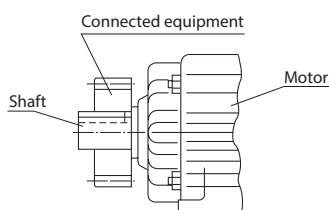
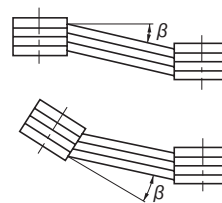

Figure 5-2
Figure 5-3
(2) When using chains, sprockets, or gears
- The working load point of the sprocket or gear should go from the center of the shaft to the motor. (See Figure 5-2)
(3) When using a V belt
- The parallelism, eccentricity β of the two pulleys should be within 20° . (See Figure 5-3)